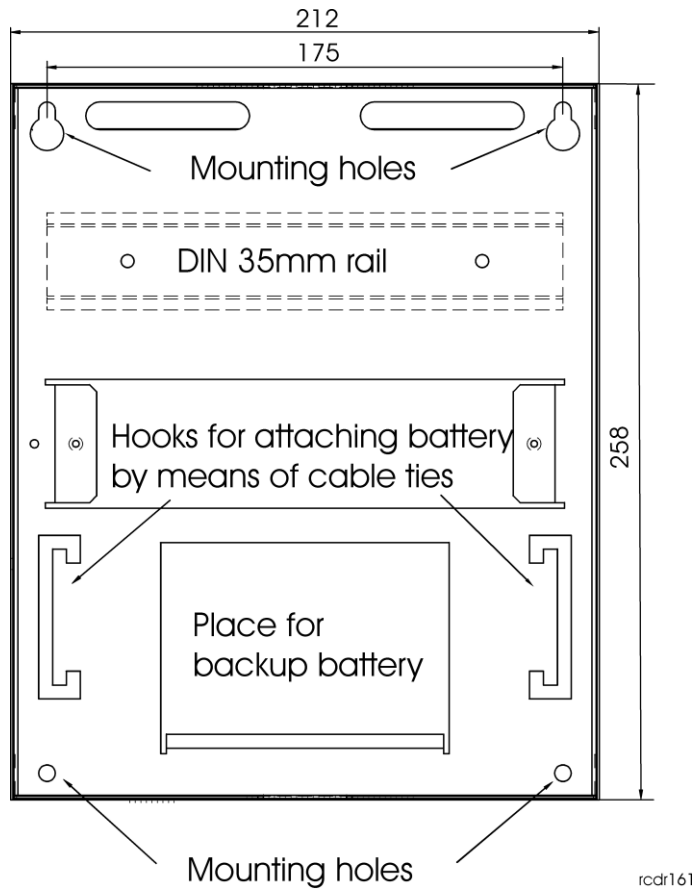

Fig. 1 Schematic view of PR4xxDR-SET enclosure
- Install backup battery in its place (see Fig.1) and then attach it to the enclosure with enclosed cable ties, using special hooks of the enclosure. Cable ties should be connected in a loop maintaining the battery in stable position (see Fig.2). Check if the battery is firmly installed.